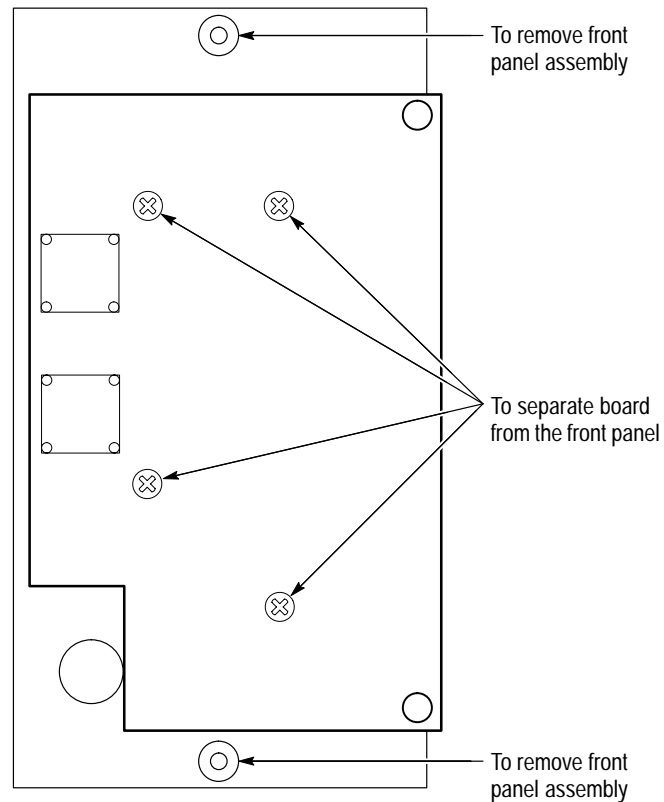

Figure 6-5: Screws that hold the Front Panel circuit board (A2) in place.
2. Remove the two screws holding the board in place. See Figure 6-5 for locations.